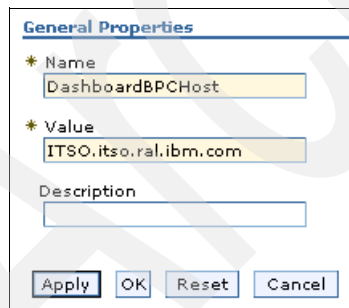

Figure A-12 Specifying the DashboardBPCHost host name
- b. Under General Properties (Figure A-12), for Name, type the fully qualified host name of the WebSphere Process Server and click **OK**.